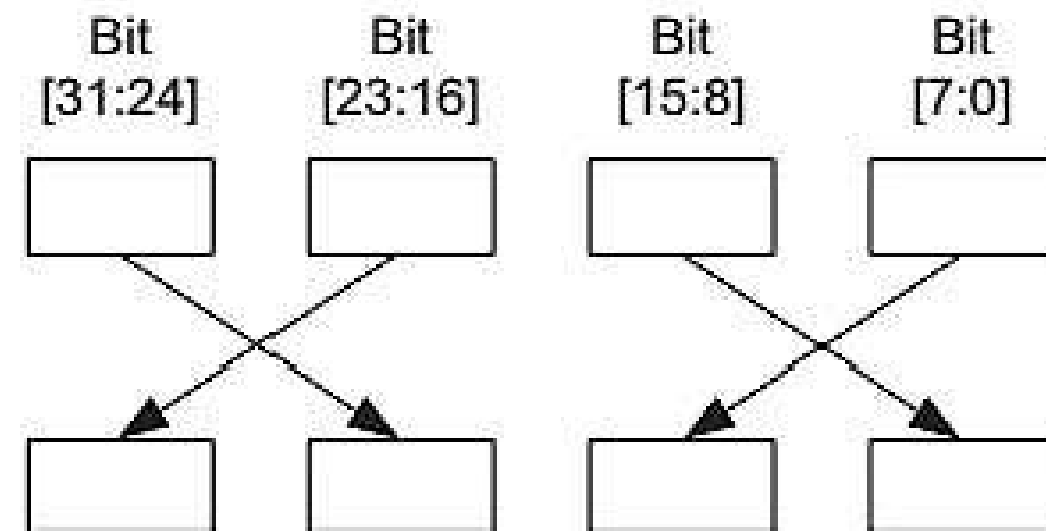

Figure 2: REV16 operation
2. REV16 (Byte Reverse Packed Half Word, Figure 2),